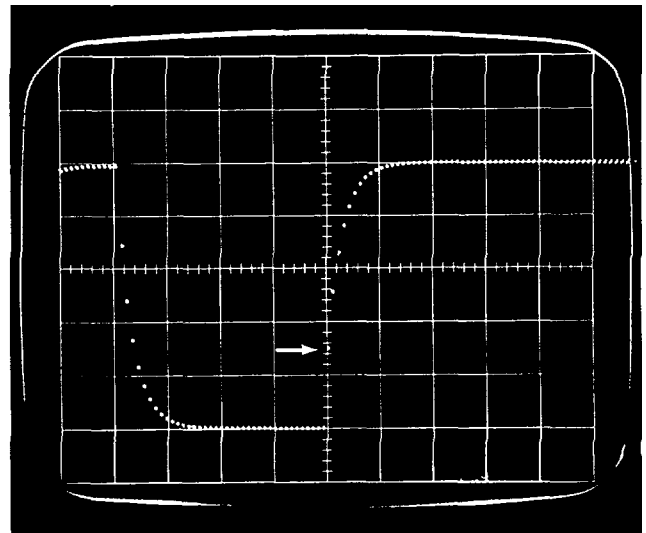

Fig. 8-19. Dot response Smoothed. Step 12.
a. Use the setup for step 11. Change the Type 3S1 SMOOTH-NORMAL Switch to SMOOTH. Adjust the VARIABLE mvts/div control until the maximum display amplitude is 5 divisions. The display should be similar to Fig. 8-19, with the first